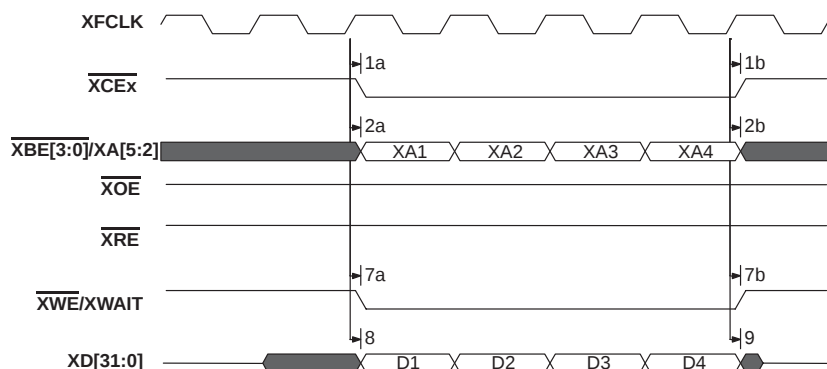

Figure 9. FIFO Write Timing
- $\overline{\text{XCE}}$ high-to-low transition after XFCLK high (Parameter 1a in Figure 9)
- $\overline{\text{XCE}}$ low-to-high transition after XFCLK high (Parameter 1b in Figure 9)
- $\overline{\text{XB}}/\text{XA}[5:2]$ valid after XFCLK high (Parameter 2a in Figure 9)
- $\overline{\text{XB}}/\text{XA}[5:2]$ invalid after XFCLK high (Parameter 2b in Figure 9)
- $\overline{\text{XWE}}$ high-to-low transition after XFCLK high (Parameter 7a in Figure 9)
- $\overline{\text{XWE}}$ low-to-high transition after XFCLK high (Parameter 7b in Figure 9)
- XD[31:0] valid after XFCLK high (Parameter 8 in Figure 9)
- XD[31:0] invalid after XFCLK high (Parameter 9 in Figure 9)